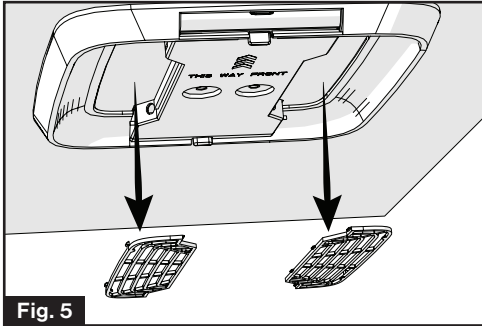

Fig. 5
6. Remove the two filters by pulling the tabs to release. (Fig. 5)